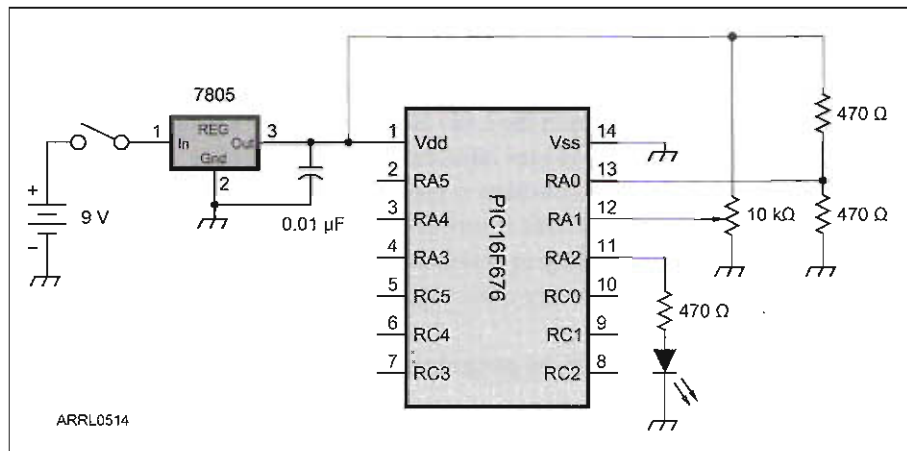
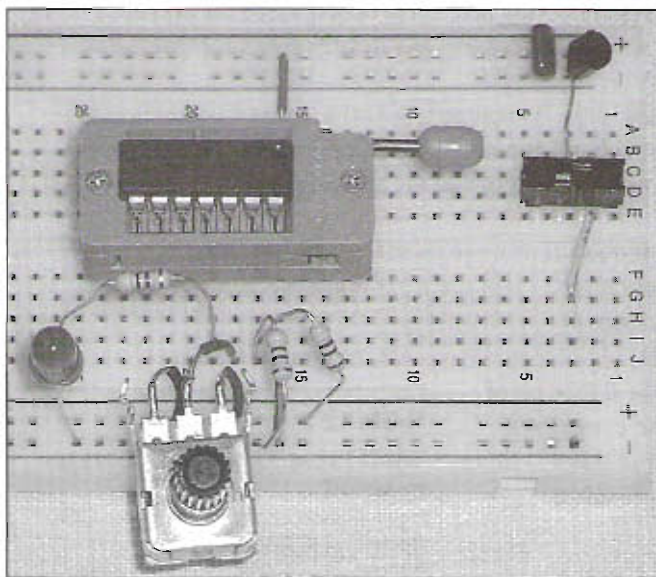

Figure 12-1
Figure 12-2
You will now be doing three programming exercises to explore the use and capabilities of the comparator. Wire up your proto-board with the circuit illustrated in **Figure 12-1**. An example of the wired circuit is shown in the picture in **Figure 12-2**.
**Figure 12-2**. This circuit applies approximately 2.5 V on the RA0 (the inverting input to the comparator) through a voltage divider, a variable voltage on RA1 (the non-inverting input to the comparator) through a variable resistor, and an LED through a current limiting resistor on RA2. Load the program project **Program Files/Ch 12 Program/Comparator** into *MPLAB IDE* and open the .asm file for study. This program will be used for